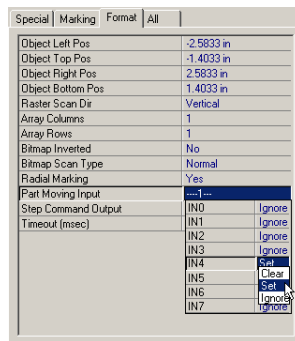

Figure 2 Configure the Part Moving Input property
- 4 Click the Part Moving Input property and click the arrow button. In the drop-down list, click *IN4* and choose *Set* (see Figure 2). One raster line in the bitmap is marked each time this Flyer input transitions from an active (*Set*) to inactive (*Clear*) state.